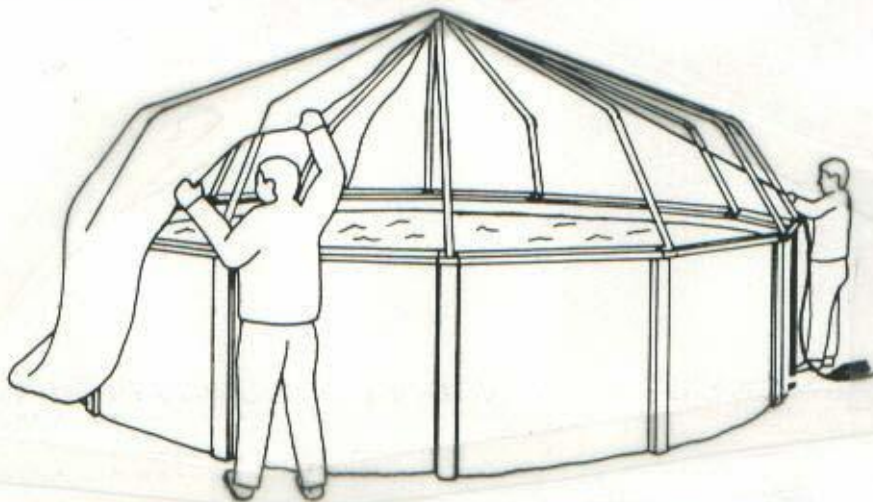

FIGURE 14
- C. Walk the other end of the 3/16" polypropylene line around to the other side of the pool and over the center spider. Slowly pull the vinyl dome up to the center spider and then have someone "fluff" the remaining portion of the cover, as you would a bed sheet, while continuing to slowly pull the cover over the top. Additional persons should be located around the pool to assist in lifting and feeding the vinyl from one side to the other. See Figure 14.
- C. Walk the other end of the 3/16" polypropylene line around to the other side of the pool and over the center of the Ridge Beam. Slowly pull the vinyl dome up to the center of the Ridge Beam. You will need to locate people at each curved point on the side of the pool where the cover is located. They will assist in raising the vinyl cover up onto the rafters equally all along the length. Then have someone "fluff" the remaining portion of the cover, as you would a bed sheet, while continuing to slowly pull the cover over the top. Additional people should be located around the opposite side of the pool to assist in lifting and feeding the vinyl down the other side. See Figure 14, page 16.